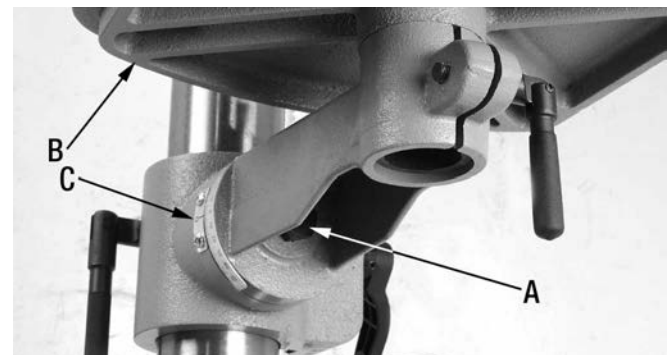

FIGURE 15
- 1) Loosen table angle setting hex bolt (A) Fig.15 using a 24mm wrench.
- 2) Tilt the table (B) to the desired position. Use the angle scale (C) as a general guide for the desired angle.
- 3) Retighten table angle setting hex bolt (A).
- 3) Check to make sure the table is perfectly square with the drill bit. If an adjustment is needed, loosen table angle setting hex bolt (A) Fig.15 using a 24mm wrench.
- 4) Slightly tilt the table until it is square with the drill bit, once adjustment is done, retighten table angle setting hex bolt (A) Fig.15 using a 24mm wrench.